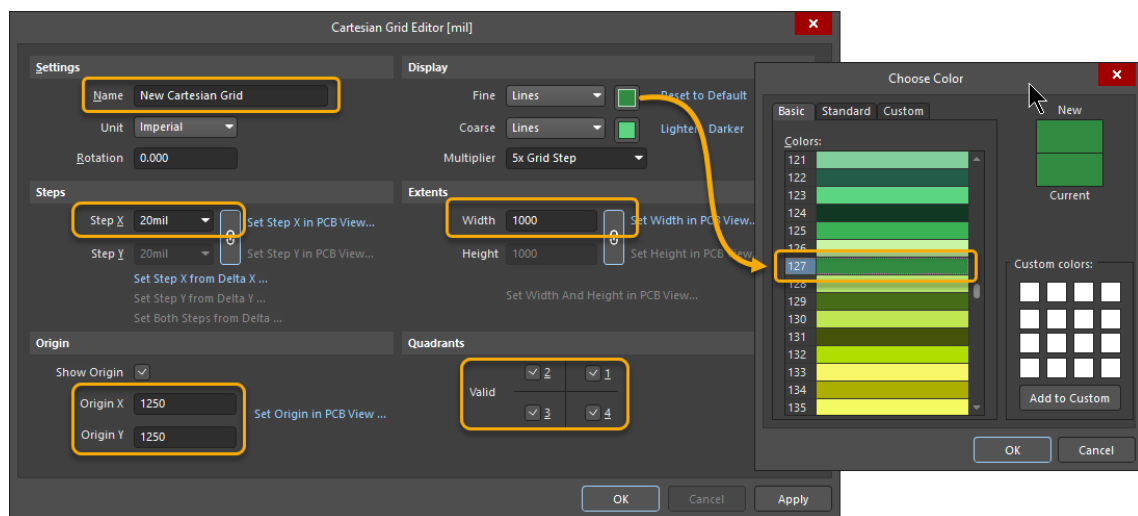

Figure 6. Cartesian Grid Editor
22. Double click on the *New Cartesian Grid* name to open the *Grid Editor* dialog, Figure 6.
23. Edit the values for each section to match those shown in Figure 6. The *Fine* color is set to 127 while *Coarse* color is set to 123.